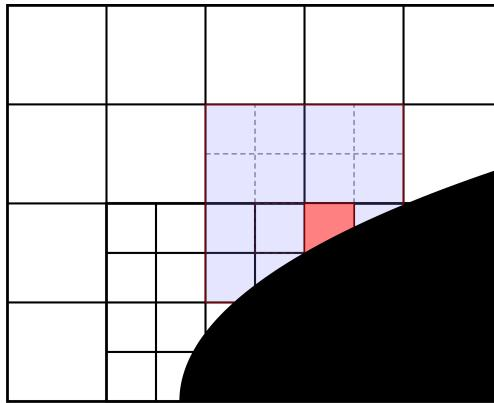

Fig. 2.6.3: Example of the region of a second order stencil for the Laplacian operator with second order gradient reconstruction on the embedded boundary.
Note that the gradient reconstruction can end up requiring more than one ghost cell layer near the embedded boundaries. For example, Fig. 2.6.3 shows a typical stencil region which is built when using second order gradient reconstruction on the EB. In this case the gradient reconstruction requires a stencil with a radius of 2, but as the cut-cell lies on the refinement boundary the stencil reaches into two layers of ghost cells. For the same reason, gradient reconstruction near the cut-cells might require interpolation of corner ghost cells on refinement boundaries.
1. Cut-cell stencils may have a large radius (see Fig. 2.6.3) and thus require more ghost cell layers.
Figure Fig. 2.6.5 shows a typical interpolation stencil for the stencil in Fig. 2.6.3. Here, the open circle indicates the ghost cell to be interpolated, and we interpolate the solution in this cell using neighboring grid cells (closed circles). For this particular case there are 10 nearby grid cells available, which is sufficient for second order interpolation (which require at least 6 cells in 2D).